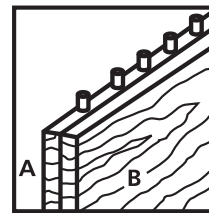

Figure 39
- Position board B next to board A so that board B is closer to you. The finished sides of the boards should mirror each other; the finished sides of both boards should either be 1) facing each other or 2) facing outward. Use a square to ensure that both boards are properly aligned. Clamp boards together. See Figure 39.